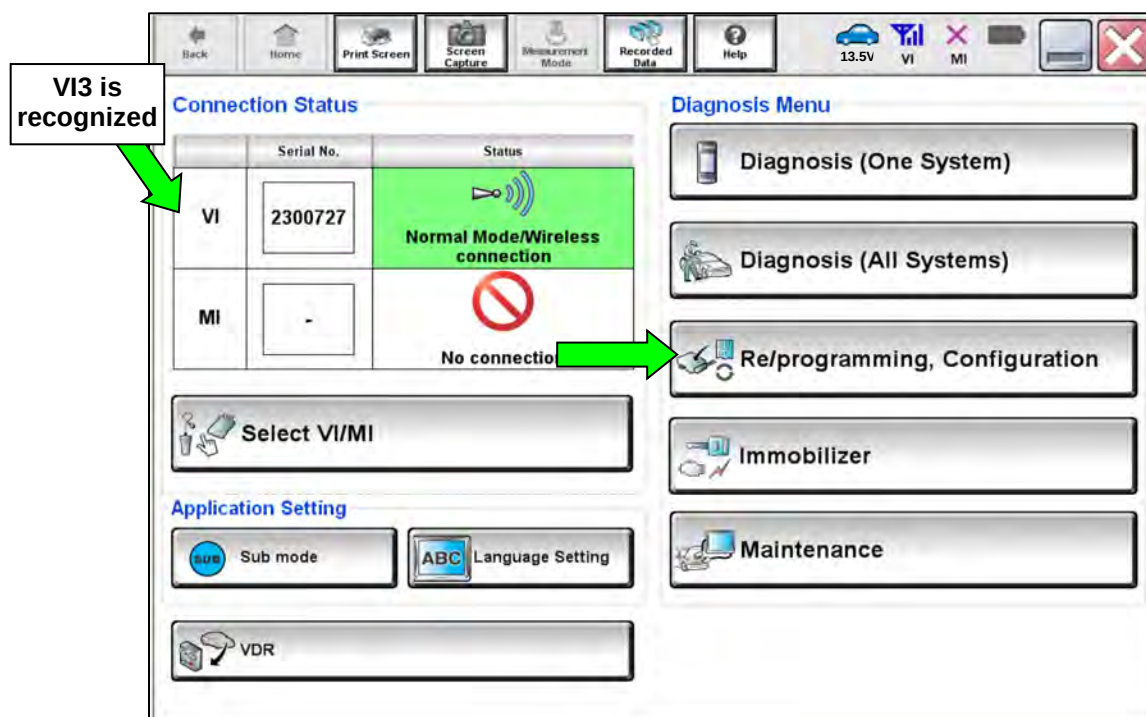

Figure 16
- The serial number will be displayed when the VI3 is recognized (Figure 16).